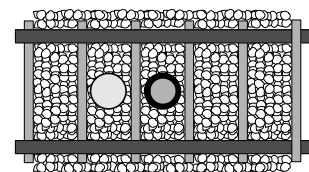

Figure 7a
With this sensor mode and physical arrangement a train is detected when the infrared (IR) beam is reflected on the underside of the train. The IR components should be mounted between the rails. Drill two 11/64" holes, through the ballast, roadbed, and sub-roadbed. These holes should be located **one tie apart** (Figure 7a) and drilled at a **slight angle from vertical** towards each other as illustrated in the side view in Figure 7b. The benefit of mounting them at an angle is increased detection reliability in smaller scales or irregular bottoms on rolling stock. For the smaller scales this drilling may end up hitting the ties. Take your time so you don't mangle them! Insert the leads of one IR emitter (white and black wires) into one of the holes (it doesn't matter which one!) from the top of your layout. Repeat for the IR detector (blue and black wires). **The tops of the components should sit no higher than the top of the ties for optimal IR performance;** in some cases (e.g. false triggering) it may be necessary to locate the components a little below the ballast line. You can extend the leads with similar (or larger) wire. We recommend soldering and insulating these connections. We also recommend using terminal blocks/strips since you'll have multiple connections to make. Once you have wired the IR components and verified their operation you may wish to put a dab of white glue or silicone caulk where the wires exit the holes underneath the layout. This will help to hold the components in place; make sure you don't get any substance (e.g. ballast or glue) on the top surface of the IR components as this may prevent them from operating properly. In extreme cases where you may be getting interference from overhead lighting you can mount the IR detector in some plastic or metal tubing. You can also recess the IR detector slightly below the ties and roadbed.